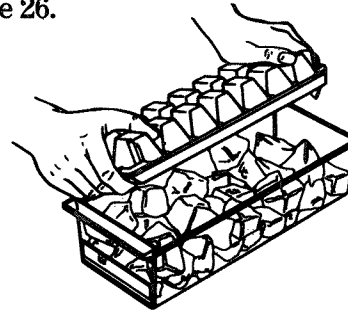

Figure 26
- Twist in opposite directions until ice pops out. See Figure 26.